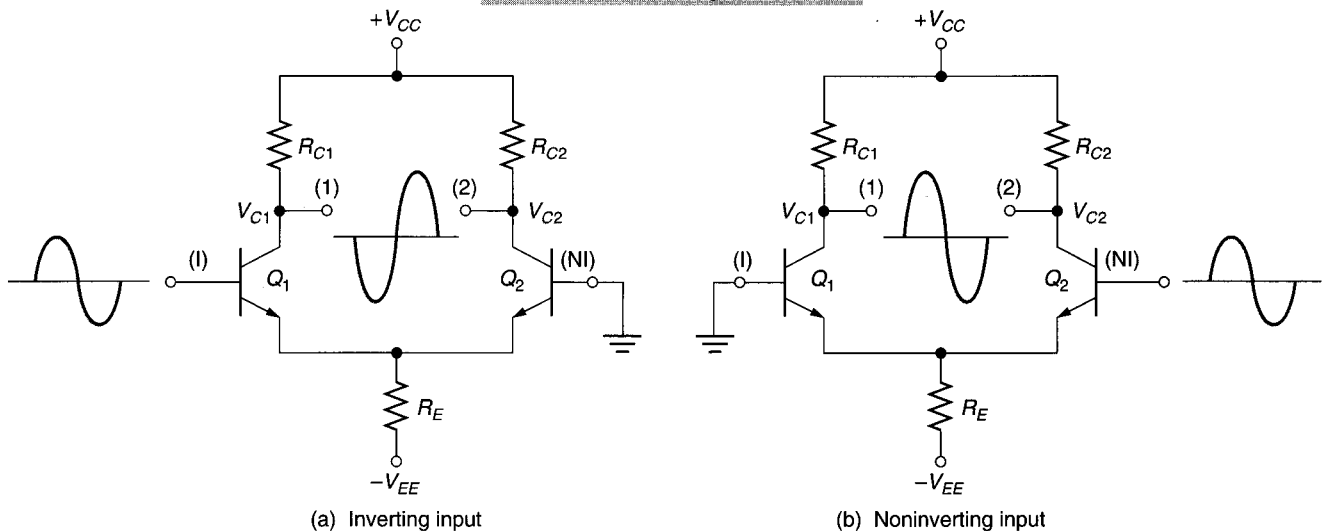

FIGURE 15.17 Differential amplifier input/output relationships.
1. **Single-ended mode.** A differential amplifier is operating in a single-ended mode when an active signal is applied to only one input, as shown in Figure 15.17. The inactive input is normally connected directly (or via a resistor) to ground. Depending on which input is active, the amplifier is classified as either an *inverting amplifier* (Figure 15.17a) or a *noninverting amplifier* (Figure 15.17b).